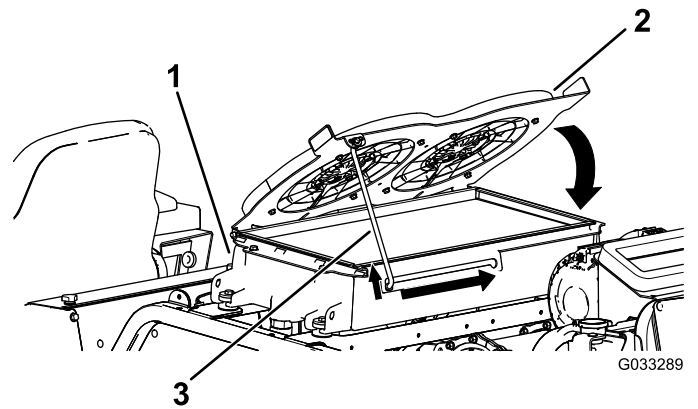

Figure 117
4. Pivot the hydraulic-cooling fans downward and lock the prop rod into the notch (Figure 117).